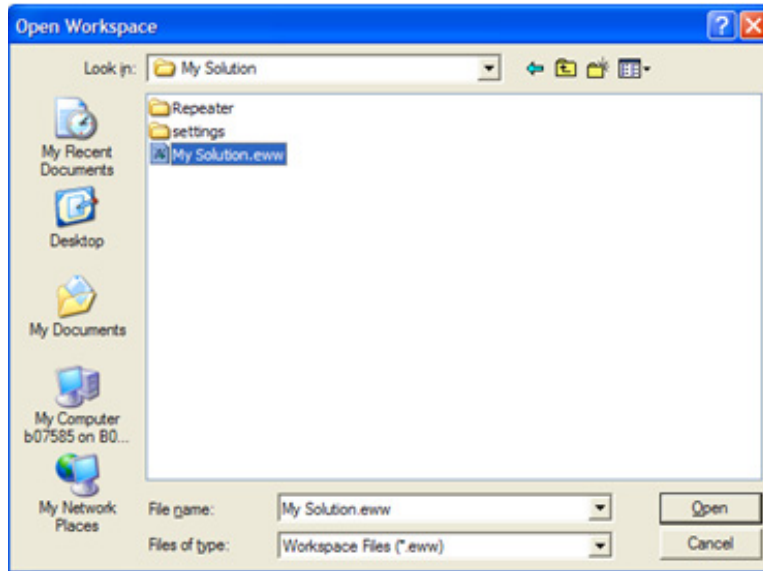

Figure 1-7. Opening a project
1. As shown in Figure 1-7, open the My Solution.eww file.